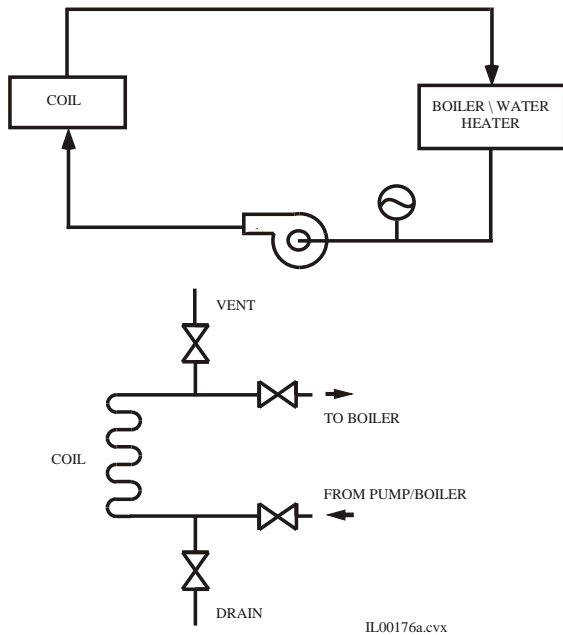

Figure 13 Water Piping Schematic
**Static Pressure.** Measure the external static pressure (see figure 13) in the supply plenum at least two feet (0.6 m) from the unit and verify that it is within the allowable range.
Use a metal tube, typically 1/4-inch (6 mm) diameter, to measure the static pressure. Determine where you want it and cut or punch a small hole in the duct. Make the hole the same size as the metal tube to prevent leakage. Insert the metal tube one-inch (25 mm) so that the tip of the tube is flush to inside wall of the duct and perpendicular to the air stream as shown in Fig. 13.